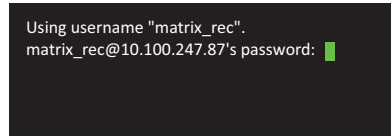

Figure 50. PuTTY Password Prompt
By default, recordings are held in the **Recording_Files** directory (see figure 50, ①) and the gcode Utility is located in the **VNRecorder_verx.y.z** directory (②). Usually, only one VNRecorder directory will be present; if the recorder has been upgraded, use the current version directory.